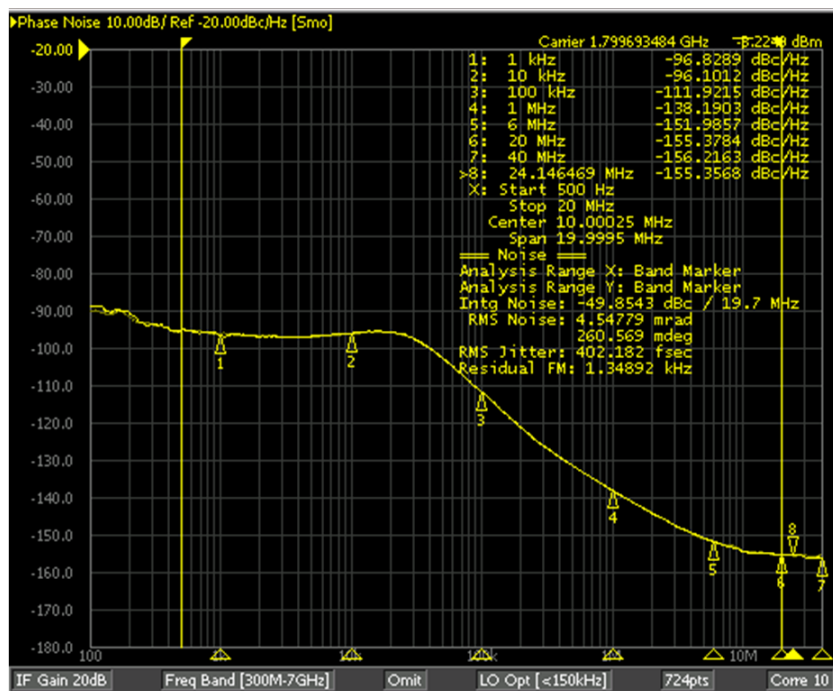

Figure 15. Integer Mode Phase Noise at 1800 MHz
6. The TRF3722 phase noise at 1800-MHz frequency at the LO_OUTP SMA connector is shown in Figure 15.